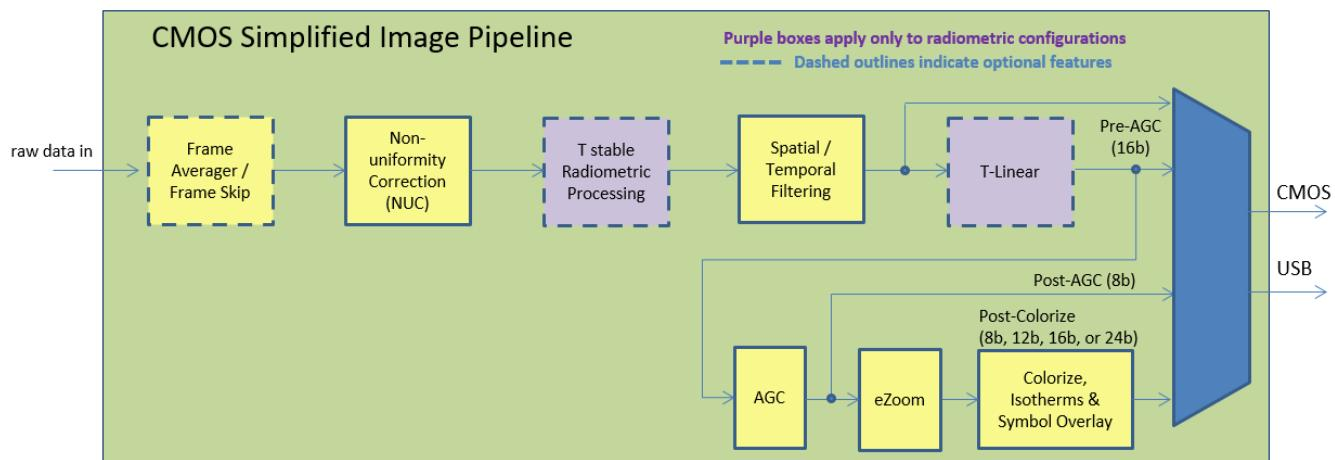

FIGURE 51: BOSON+ SIGNAL PIPELINE – CMOS OUTPUT ENABLED
As described in Section 5 and shown in Figure 51, there are multiple locations in the signal pipeline where video can be tapped for output on the CMOS channel. Boson+ provides the following CMOS video-tap modes:
- **Radiometry Enabled Pre-AGC (16-bit) (factory default with Radiometry enabled)**: On Radiometry enabled cameras the T-stable or T-linear tap point is available. See Figure 51, as well as Section 7.7.